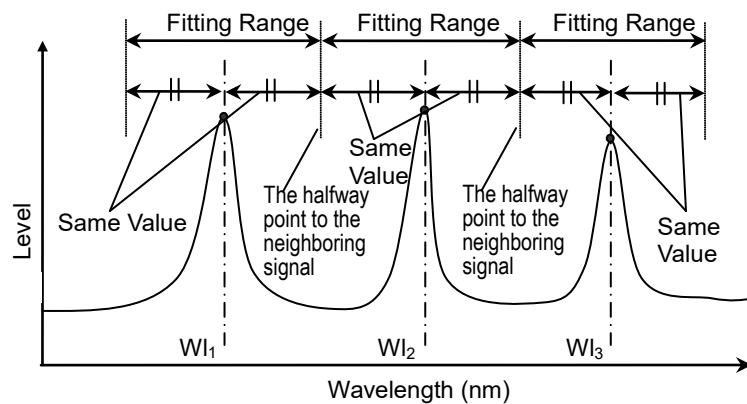

Figure 5.8.3-3 Auto (Center) Fitting Range
Use the halfway point to the neighboring signal as the wavelength range calculated. (See Figure 5.8.3-3)
- Auto (Center): The halfway point to the neighboring signal is used as the noise level detection position. (See Figure 5.8.3-3) If there is only one signal, then the noise level dependent on Resolution during waveform measurement is used as the detection position. (See Table 5.8.3-2)